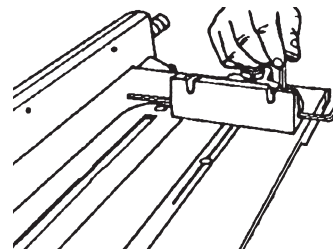

Figure 64
4. Insert the Long 5/32" Allen Wrench through the Miter Gauge and secure it using a Short 5/32" Allen Wrench and a Set Screw borrowed from the Lathe Tool Rest, as seen in Figure 64.